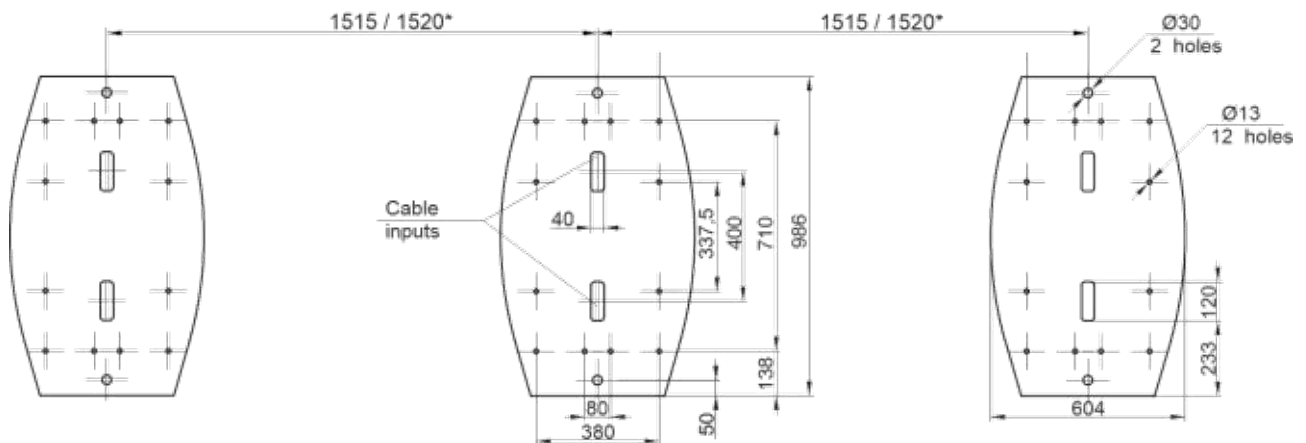

Fig. 13– Installation dimensions of the set «JETPAN-900-1» and «JETPAN-900-2» turnstile
- Unscrew the two screws that fix the turnstile base to the shipping container from both sides (3) and remove the turnstile from pallet;
- The turnstile fixation holes to be marked on the site surface according to *Figure 13*. The turnstile itself, located upright at the installation site, can be used as a template
4. - align fixation holes at the turnstile bottom plate with the prepared surface holes according to the marking shown in Fig.13;